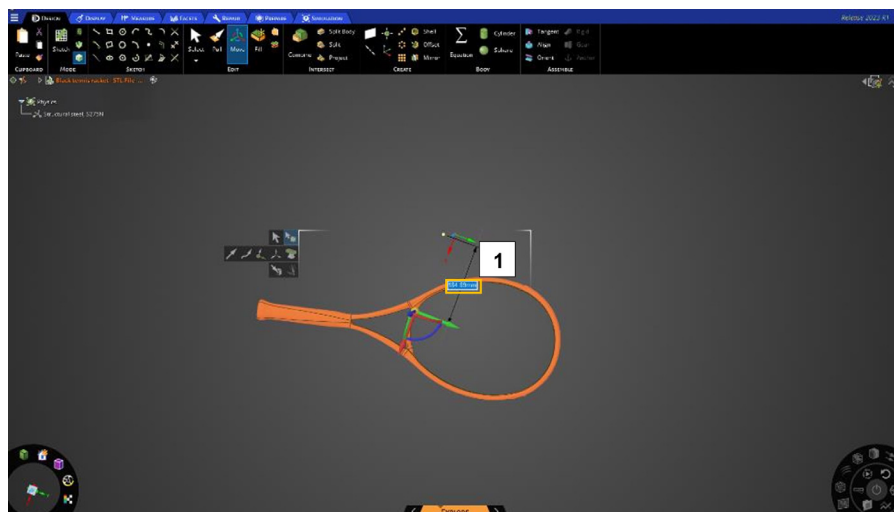

Figure 13: Displacing the geometry.
4. Select the arrow corresponding to the desired direction, align the racket with the origin, on the triad and drag it with your mouse. Use the dialog box if you wish to specify a specific displacement value (Fig. 13 (1)).